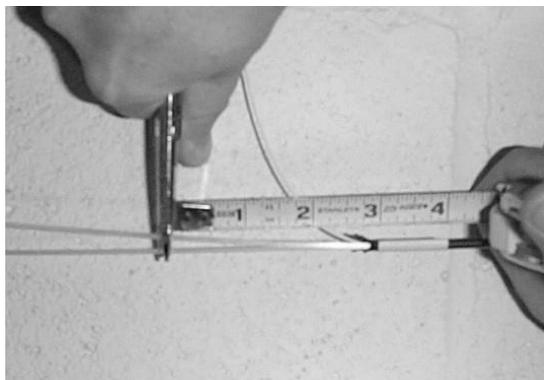

Figure 7 – Cut the strength members at the required length.
4.7 Cut the strength members at the required length (Figure 7). Refer to the closure documentation to determine the proper length that is required to secure the strength members in the closure.